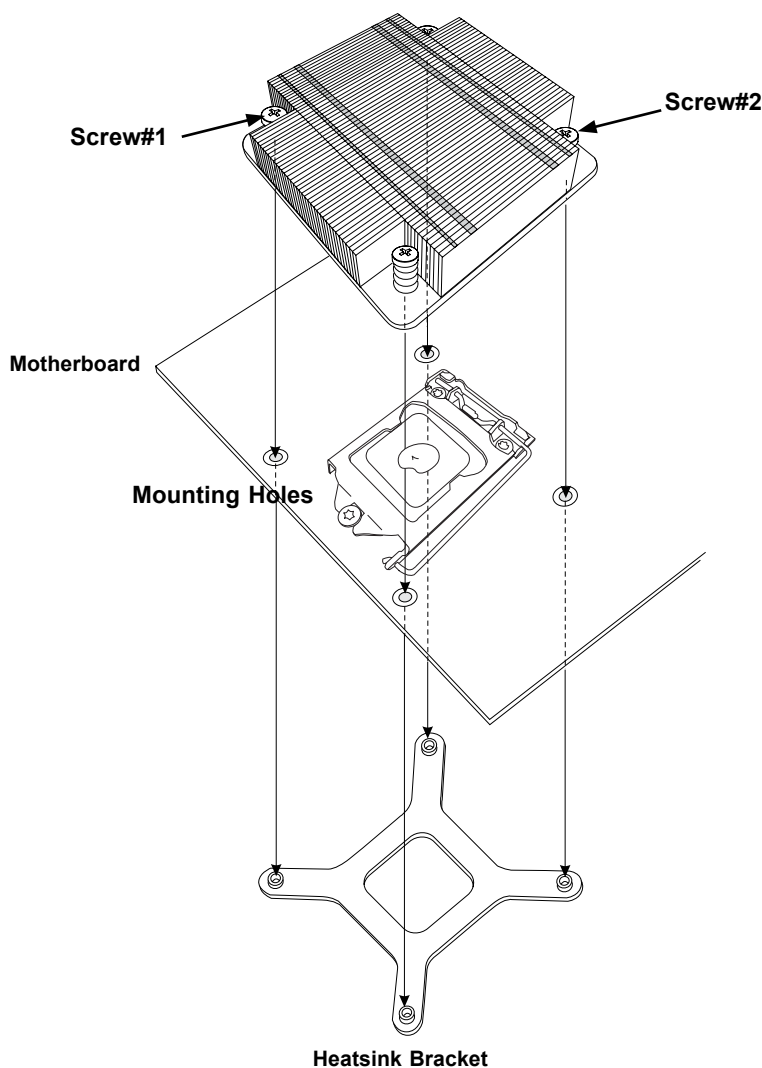

Figure 3-2. Installing the Heatsink
3. Place the hard drive bracket in the chassis as illustrated in Figure 3-2.